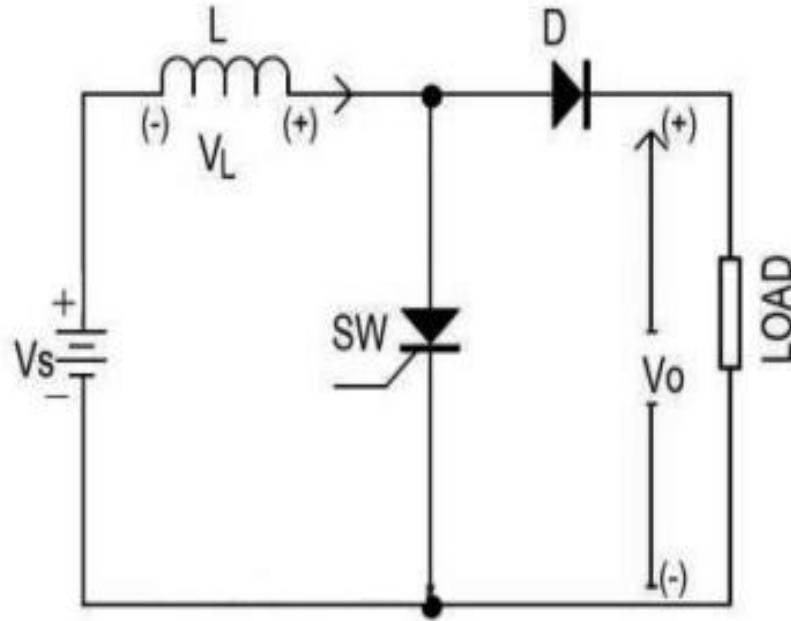

Fig. 23.2: Step-up chopper
1. Make the circuit connection as per the circuit diagram shown in Fig. 23.2